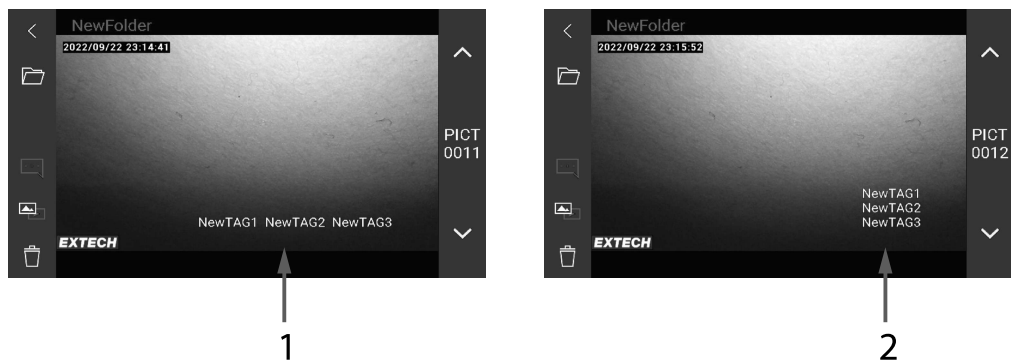

Figure 7.6 Tags shown horizontally (1) and vertically (2).
5. Tap to format the tags so that they are stacked vertically on the selected corner of the images (see Figure 7.6 below).